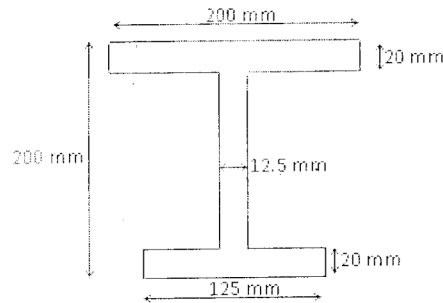

Figure 3
7. A simply supported beam of span 4 m carries a uniformly distributed load of 25 kN/m over the entire span. The cross-section of the beam is as shown in Figure 3. Draw the distribution of shear stress across the mid-span section and also find the ratio of maximum shear stress to the average shear stress in the beam.